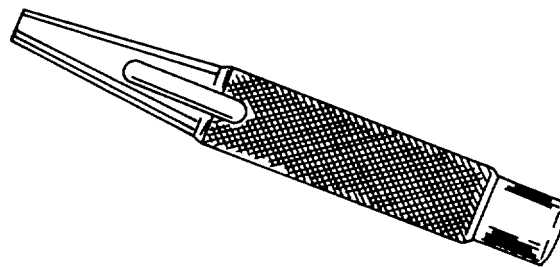

Figure 4-64. Hollow Punch
b. *Hollow Punches.* Hollow punches are used to cut holes in thin, soft metal or other items such as rubber, cork, leather, or paper. Figure 4-64 shows a typical hollow punch.